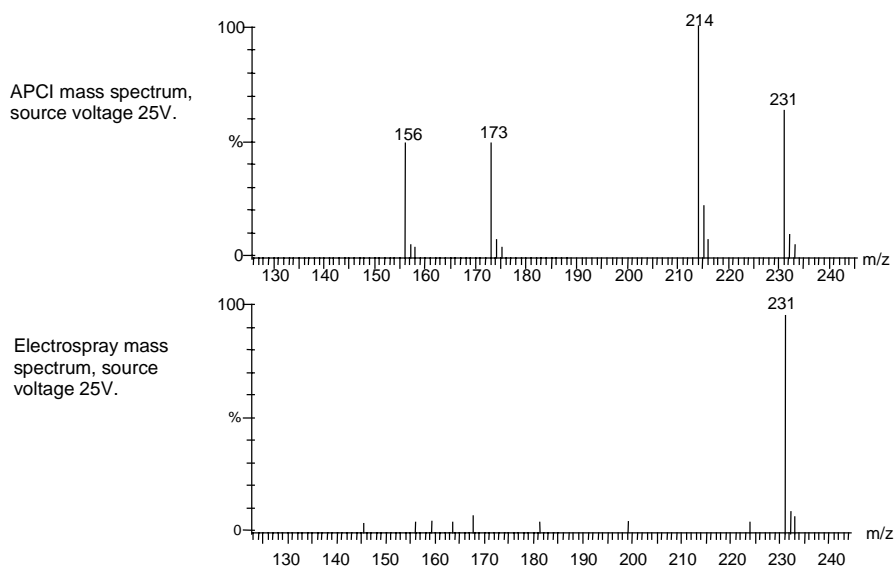

Figure 1-17. Thermal fragmentation of the herbicide asulam in APCI
- Electrospray is one of the softest ionization methods available, whereas APCI, although also a soft ionization technique, may not be suitable for some very thermally labile compounds as there may be thermal fragmentation (see Figure 1-17).